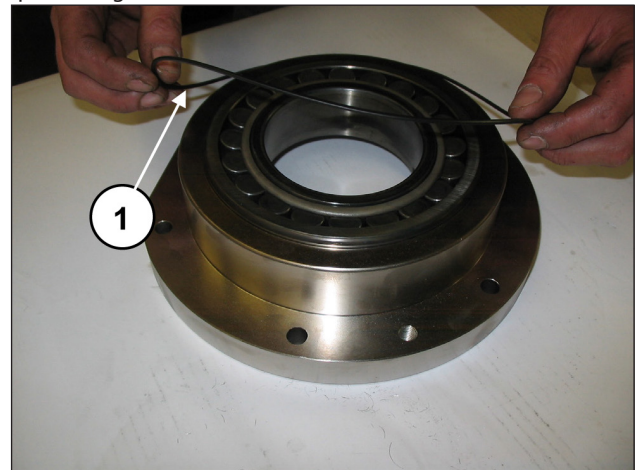

Fig. 71
Apply the O-ring to the outside of the bearing support cover (pos. ①, Fig. 71).